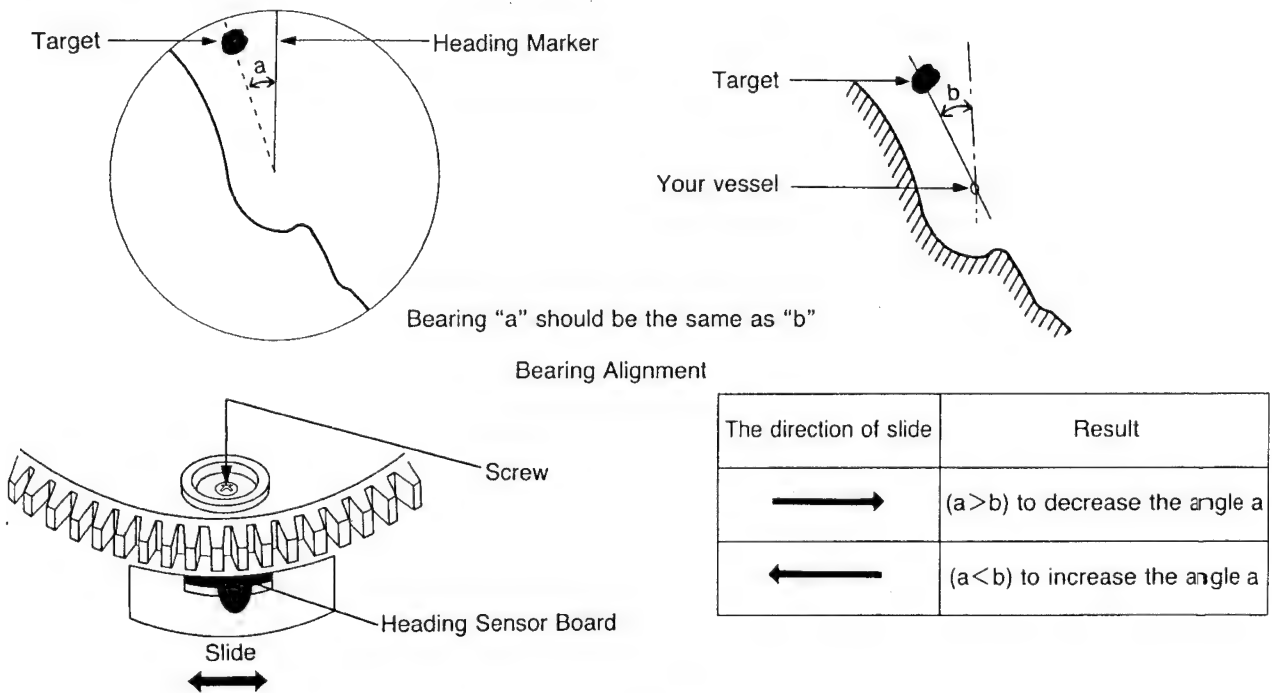

Fig. 53.
- 5) If there is a difference between them adjust the position of the Heading Sensor Board (heading detector) as shown Fig. 53.